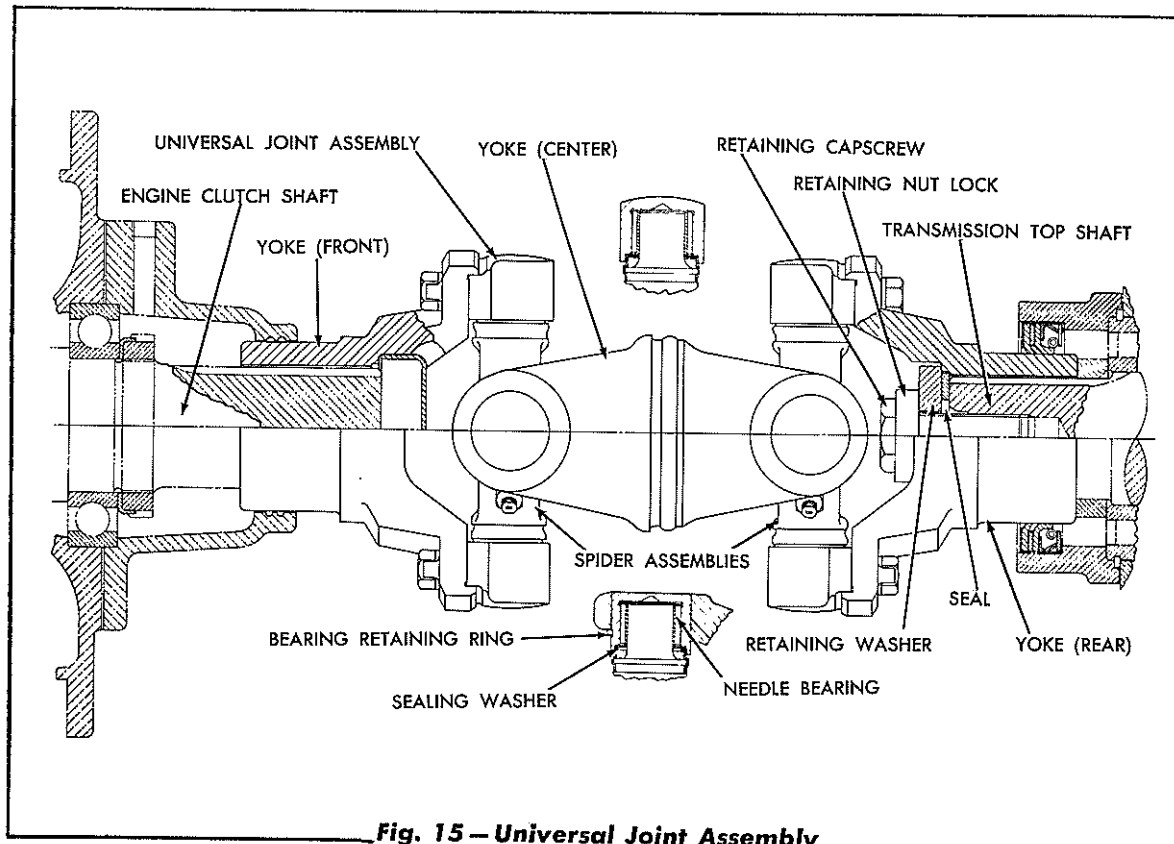

Fig. 15 — Universal Joint Assembly
- r. Occasionally, after a bevel pinion and gear have been adjusted in the above manner, it is necessary to add or remove adjusting shims to obtain a good tooth pattern. Always use a marking compound to check the tooth pattern after making an adjustment. Refer to Fig. 15 in this section for proper tooth pattern.